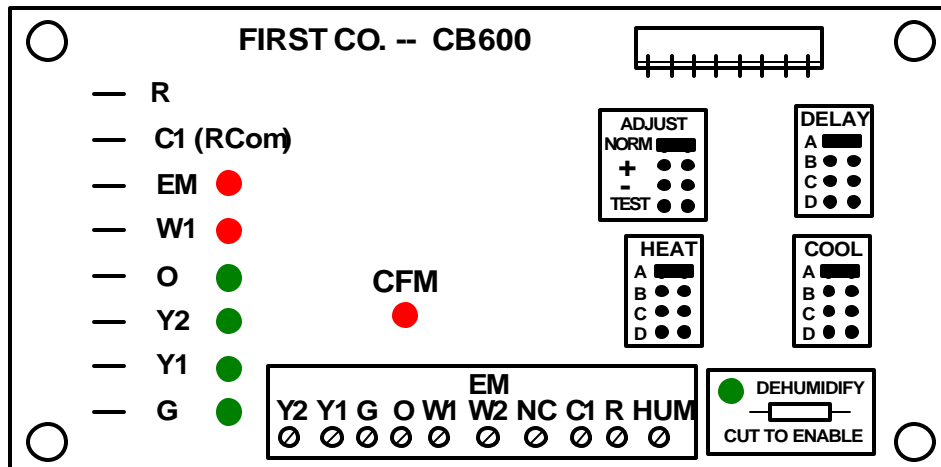

Figure 9 - Select Control Board
**Heating Select Tap** – Select system airflow for cooling / heat output. See figure 9.
**Adjust Select Tap** – Select system CFM airflow requirement. See figure 9.
**Delay Select Tap** – Select desired delay profiles. See figure 9.